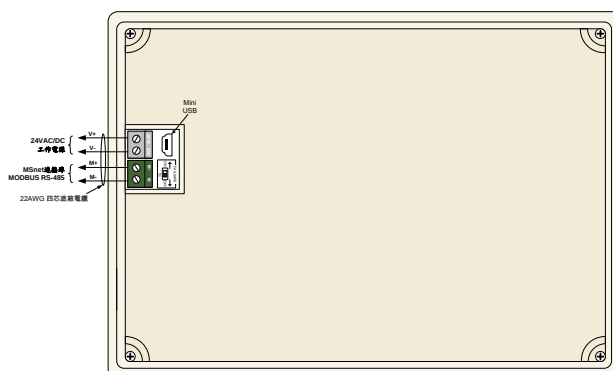

Fig. 2 DST70P Wiring
- Setup, upload firmware, and upload graphic display by using the BACsoft software and connect PC to DST70P with USB2.0 to Mini USB cable (see Fig. 2).